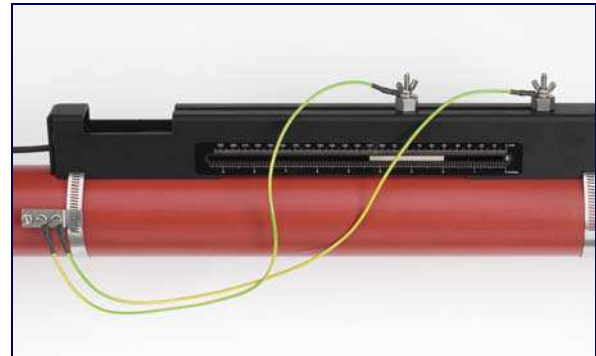

Figure 2.15
13. In some cases, particularly on large pipes using diagonal mode, or pipes with a poor internal condition, the signal from the sensors can be very noisy. In order to improve sensor performance and noise immunity, we recommend that the transducers are earthed, using the supplied cables and attachment hardware, in all installations – as shown in Figure 2.15.